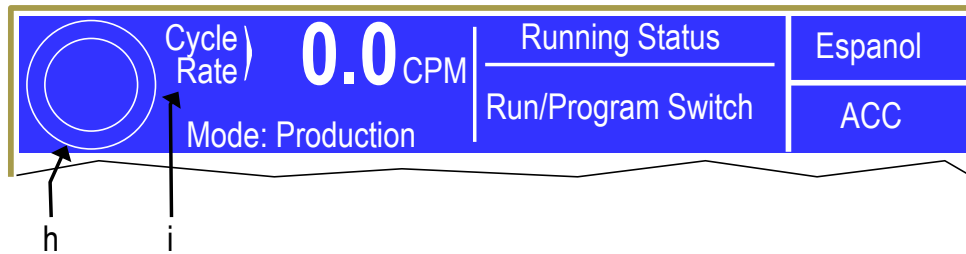

**Figure 5: Top Info Area with 5100-11 Encoder**
Figure 5 shows the top info area when the tonnage monitor is used with the optional 5100-11 encoder. The information available is:
- a) Graphical Display of Crankshaft Angle** For speeds below 70 SPM or so, this will show the crankshaft angle in either a “clock” format (this is the mode shown in Figure 5) or a “traveling dot” format. Press the screen inside the circle to switch between the formats (this can be done at any time, including while the press is in motion). Above 70 SPM, this will change to rotating arrows to indicate crankshaft motion.
- e) Programmable Display Area** This area can display a variety of information, based on user selection. Some examples items available include press speed (as shown in Figure 5), tonnage monitor current status, reason for the last stop, part count, total tonnage, and distance to the bottom of the stroke. Press inside this area to cycle to the next available item. The operator terminal can also be configured to automatically show a particular item when the press control mode is switch from a setup mode to a production mode, and vice versa. See section 4.10.1 on page 63 for more information on configuring this area and the information items available.
When the 5100-11 encoder is not used, then some of the information and capabilities provided by the encoder become unavailable. Figure 6 shows what the top info area looks like in that case. The differences from Figure 5 are:
- i) Cycle Rate Readout** Without an encoder, crank angle and stroking speed are not available. By using the time between cycles, the tonnage monitor can give a readout of the production cycles per minute. This should be very similar to strokes per minute when running in a continuous mode, but will differ quite a bit if running in single stroke or some other non-continuous mode. For instance, the press may be set to 60 SPM, but the operator may make a stroke every 10 seconds. In that case the cycle rate would be 6 CPM. Note that cycle rate is also available when using the 5100-11 encoder as one of the selectable readouts in the programmable display area (area “e” in Figure 5)